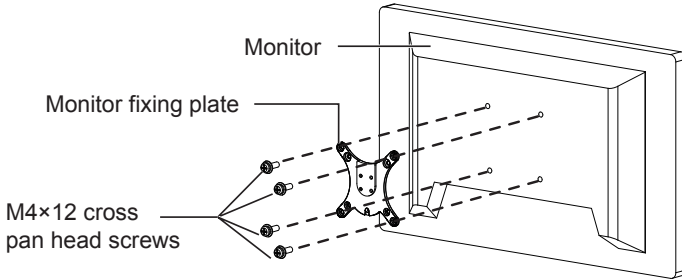

Figure 13 Installing the Monitor Fixing Plate
- a. Use four M4 × 12 cross pan head screws to fix the monitor fixing plate on the back of the monitor, as shown in Figure 13.